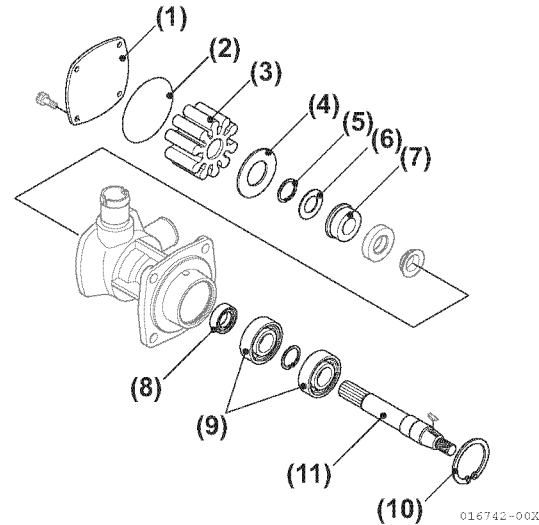

Figure 7-34
4. Remove four bolts, side cover (Figure 7-34, (1)) and O-ring (Figure 7-34, (2)).
5. Remove the impeller (Figure 7-34, (3)) and wear plate (Figure 7-34, (4)) from the housing.
6. Remove retainer, washer and mechanical seal (Figure 7-34, (5), (6), (7)).
7. Using pliers from drive gear side, remove retainer (Figure 7-34, (10)) which holds bearings (Figure 7-34, (9)).
8. Lightly tap pump shaft from impeller side and remove shaft and bearings as a set (Figure 7-34, (11), (9)).
9. Remove lip seal (Figure 7-34, (8)) and mechanical seal if necessary.
- Note: When installing the new impeller, rotate the impeller clockwise to bend the vanes in the direction of rotation (Figure 7-34, (3)).
- Install a new O-ring (**Figure 7-34, (2)**) and hold it in the groove using petroleum jelly.